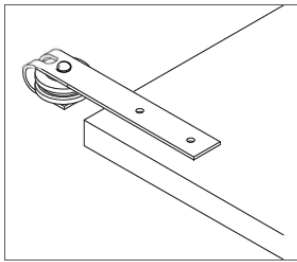
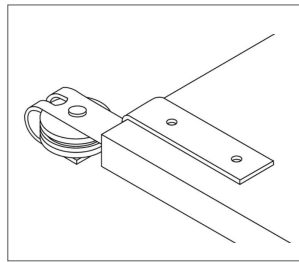

Figure 1
Figure 2
2. Place a straight hanger on the door that will go closest to the wall (Figure 1) and a angled hanger on the door that will go furthest from the wall (Figure 2).
1. To determine where the track should be installed, first measure the height of the door, then add 2-1/8" to the door height. 1/2" (a) will be for the clearance between the bottom edge of the door and the floor. 1-5/8" (b) will be from the top edge of the door to the center of the track. (Figure 1).
3. Hold the track up to where the pencil line is visible through the holes in the track. Mark an intersecting line in the center of each hole (Figure 2).